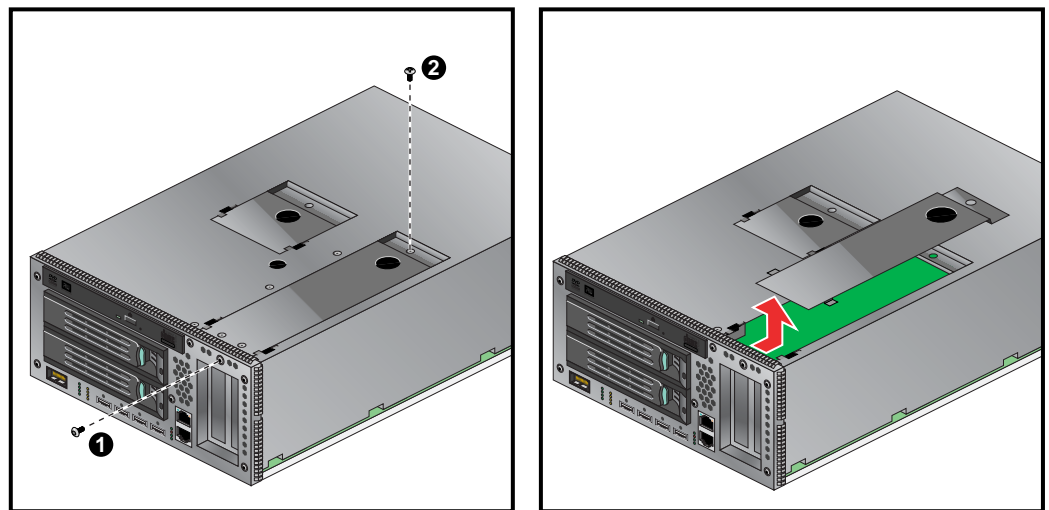

Figure 6-26 Removing the Card Access Panel From the IA Blade
3. After removing the IA blade from the IRU chassis, place it on a stable flat surface with left side facing upward (see Figure 6-26).